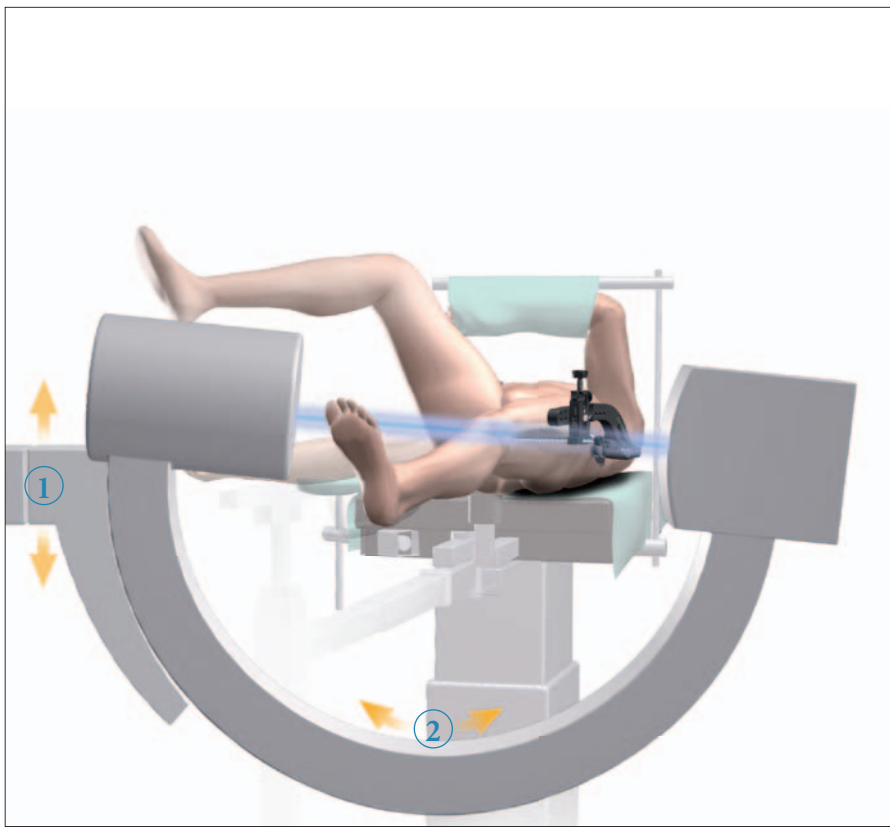

**Fig. 26a**
On the fluoroscopic image, the goal is to achieve a projection showing the Drill Sleeve Assembly and the nail to be in line as shown on Fig. 26a.
**30 degrees Oblique Positioning of the C-Arm is an average indication and may need to be readjusted according to the obtained fluoroscopic image. The goal is to achieve a projection showing the nail and the Drill Sleeve Assembly in the center of the fluoroscopic image (Fig. 26a).**